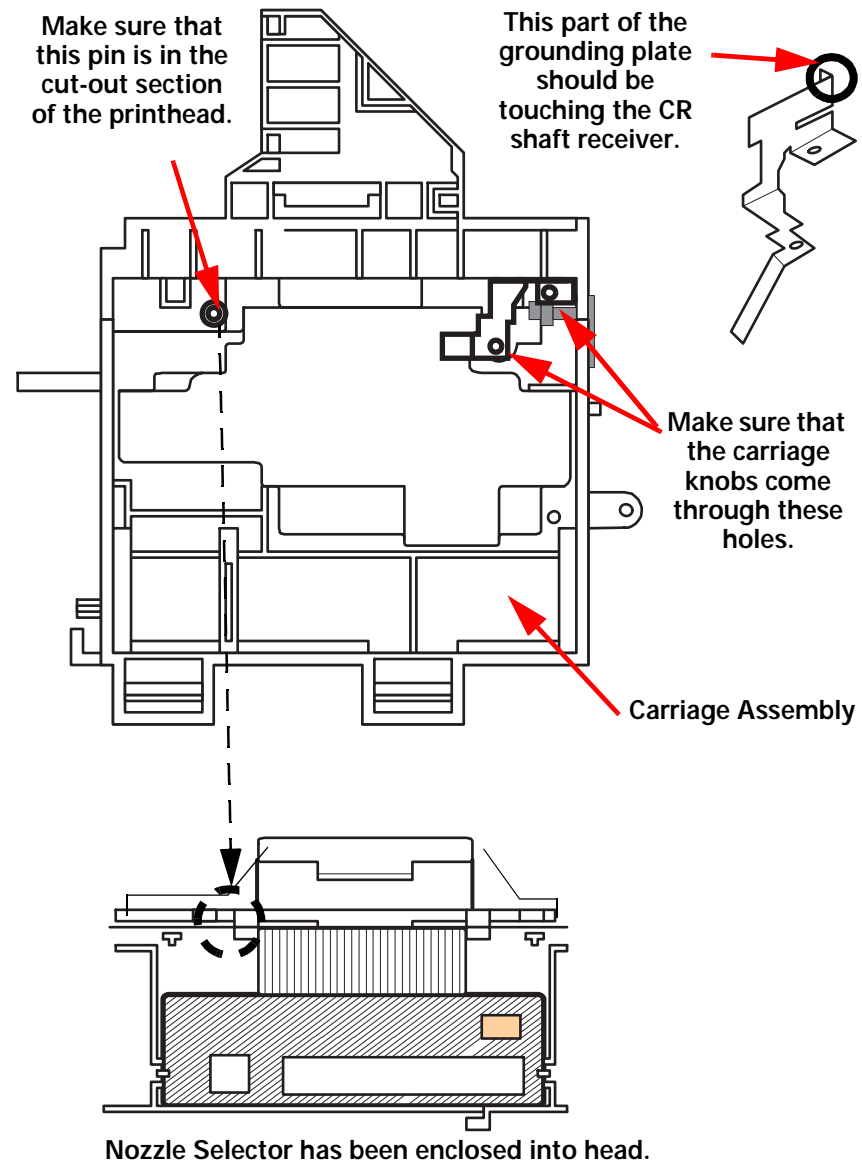

Figure 4-7. Installing the Printhead
- See Figure 4-7 on the next page to make sure that the grounding plate is installed correctly. (There are 2 pins to determine the location.)
- When installing the printhead, make sure that the location pin on the carriage side is placed in the notch of the printhead. See Figure 4-7.